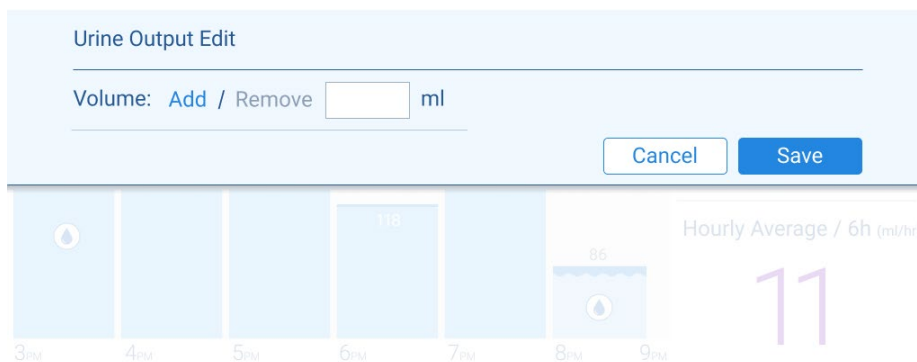

Figure 20 – Urine Output Edit Pop-Up Screen
2. Fill in the volume you would like to add or remove in the pop-up window (Figure 20)